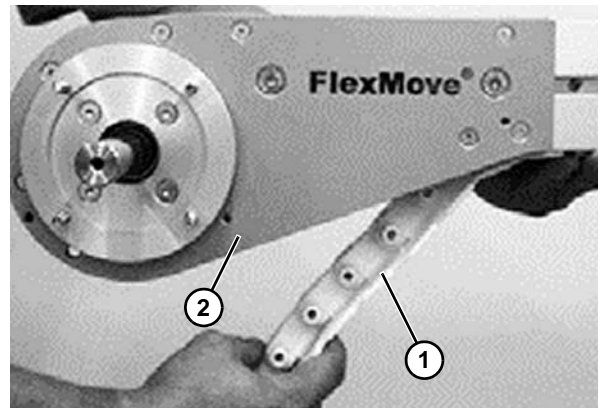
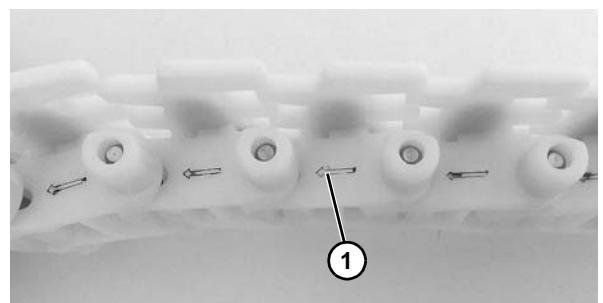

Figure 50
Figure 51
1. Insert the chain (**Figure 50, item 1**) into the underside of the drive unit (**Figure 50, item 2**). Make sure the chain will be moving in the correct direction, as indicated by the arrow (**Figure 51, item 1**) located at the side of all chain links.